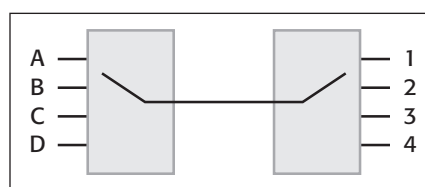

Figure 5. Blocking matrix
- **Blocking Matrix** – This matrix allows the connection of a single input to any single output. Therefore, only one signal path is active at any given time. This is somewhat restrictive, but working with RF and microwave signals, the paths must have impedance matching. Closing several paths at one time could cause reflections and therefore poor VSWRs. This results in loss of signal and power. So a blocking matrix may be restrictive but most of the time it is necessary for signal quality issues. Refer to **Figure 5**.